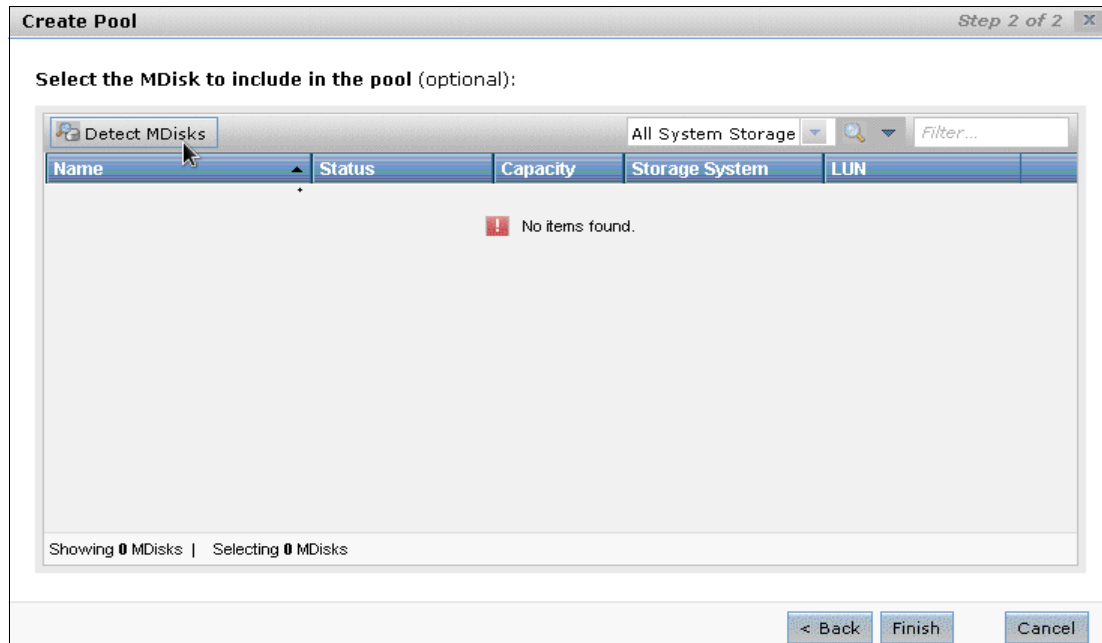

Figure 2-20 Detecting MDisks
- Click **Detect MDisks** to show you the MDisks that are to be added to the storage pool, as shown in Figure 2-20.